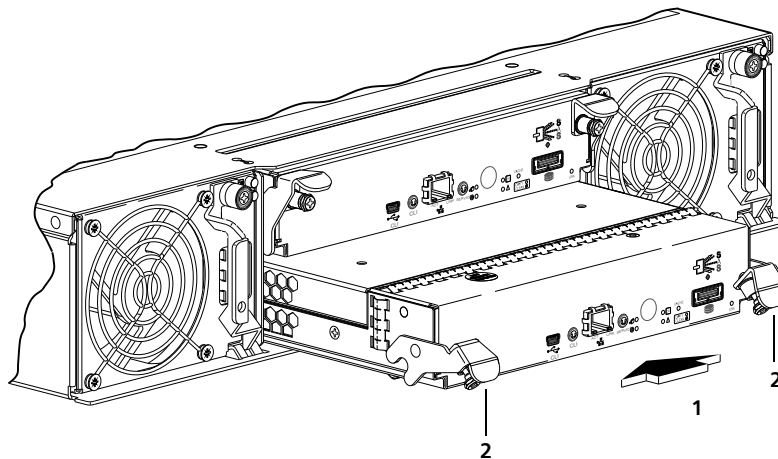

Figure 4 Inserting a controller module
- 1 Loosen the thumbscrews; press the latches downward (see Figure 4).
- 2 Slide the controller module into the enclosure as far as it will go (1).